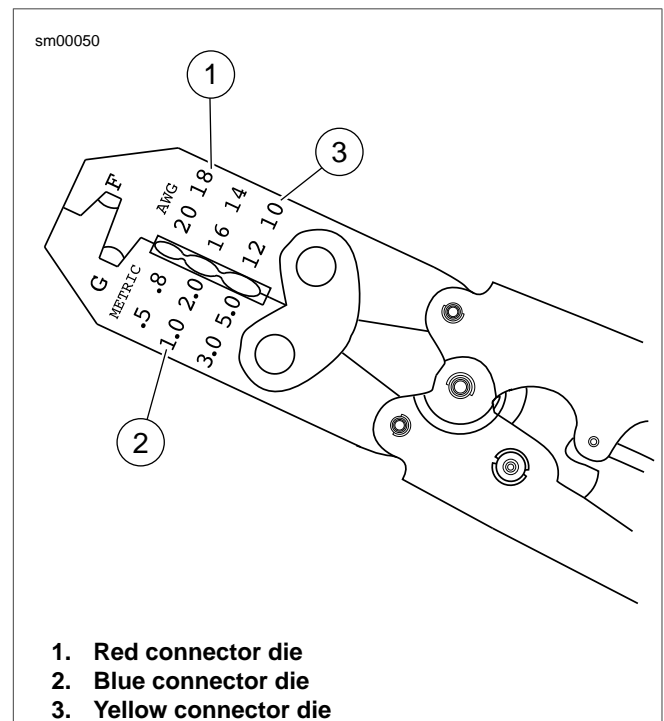

Figure A-76. Packard Crimping Tool (HD-38125-8)
- See Figure A-76. Open the PACKARD CRIMPING TOOL (Part No. HD-38125-8) ratchet by squeezing the handles closed.